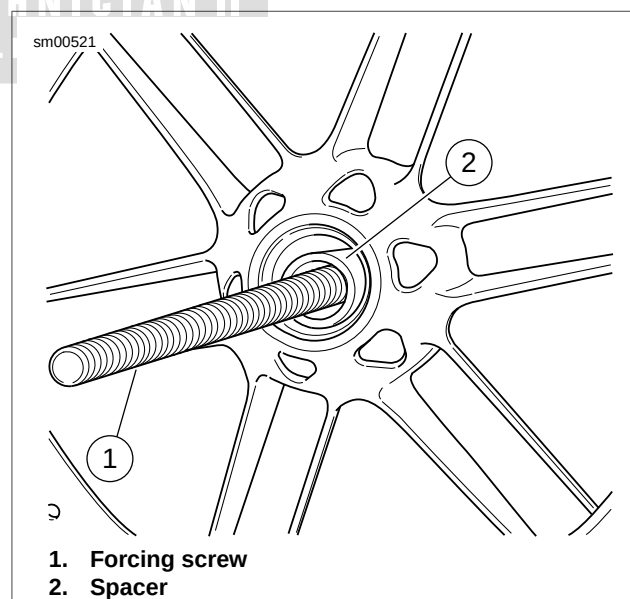

Figure 2-14. Install the Spacer
10. See Figure 2-14. Install the spacer.
See Figure 2-14. Center the spacer (2) while installing the wheel bearing. Failure to center the spacer could cause the bearing not to pull in straight.